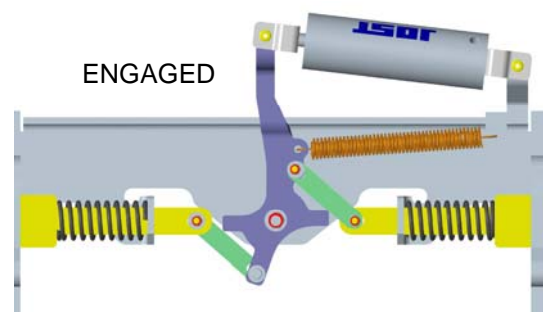

FIGURE 10
1. Engage the locking plungers as shown in figure 10.